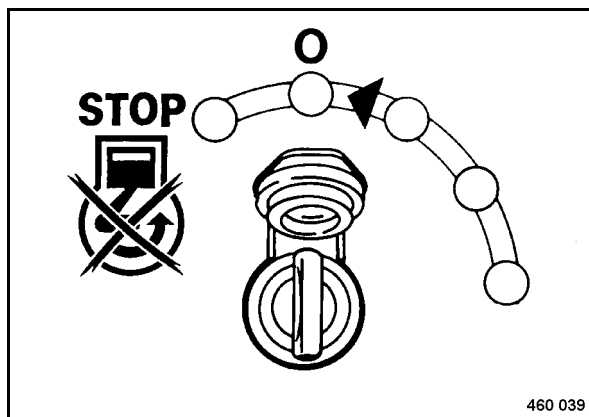

Fig. 68
- To shut the engine down turn the ignition switch (Fig. 68) to position "0".